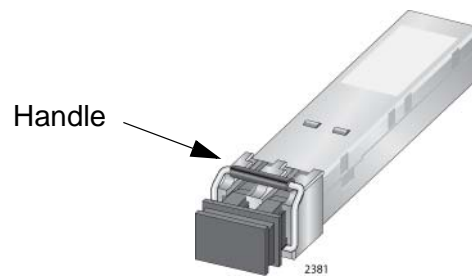

Figure 84. Handle on SFP+ Transceiver
2. Orient the SFP+ transceiver with the handle on top, as shown in Figure 84 on page 145.